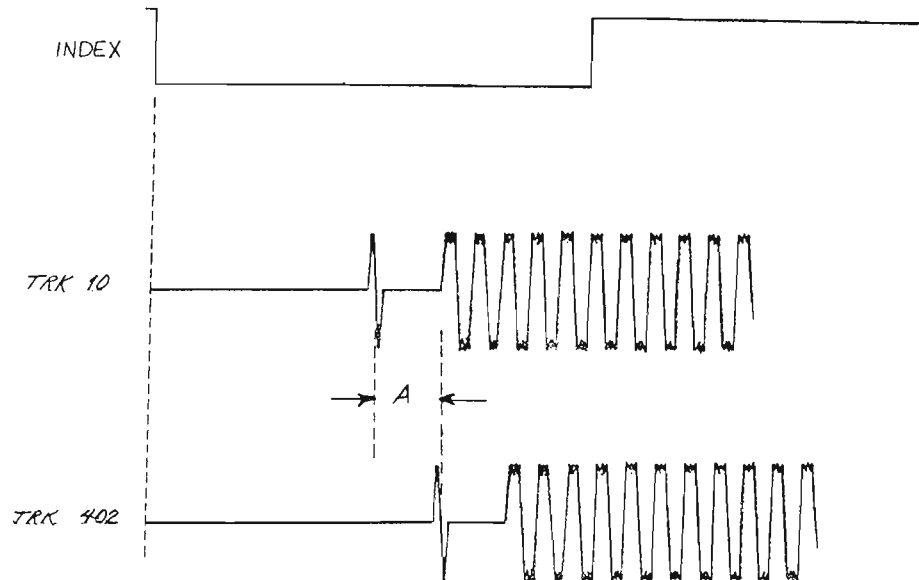

FIGURE 22 POINT "A" CANNOT EXCEED 6 USEC
2. Measure the Index-to-Data burst time for one of the upper disk heads at track 10 and then at track 402. Note the time difference in the Index-to-Data burst time, between track 10 and track 402 (see Figure 22). The time difference "A" must not exceed 6  $\mu$ sec. If the time difference is greater than 6  $\mu$ sec perform the following adjustment.